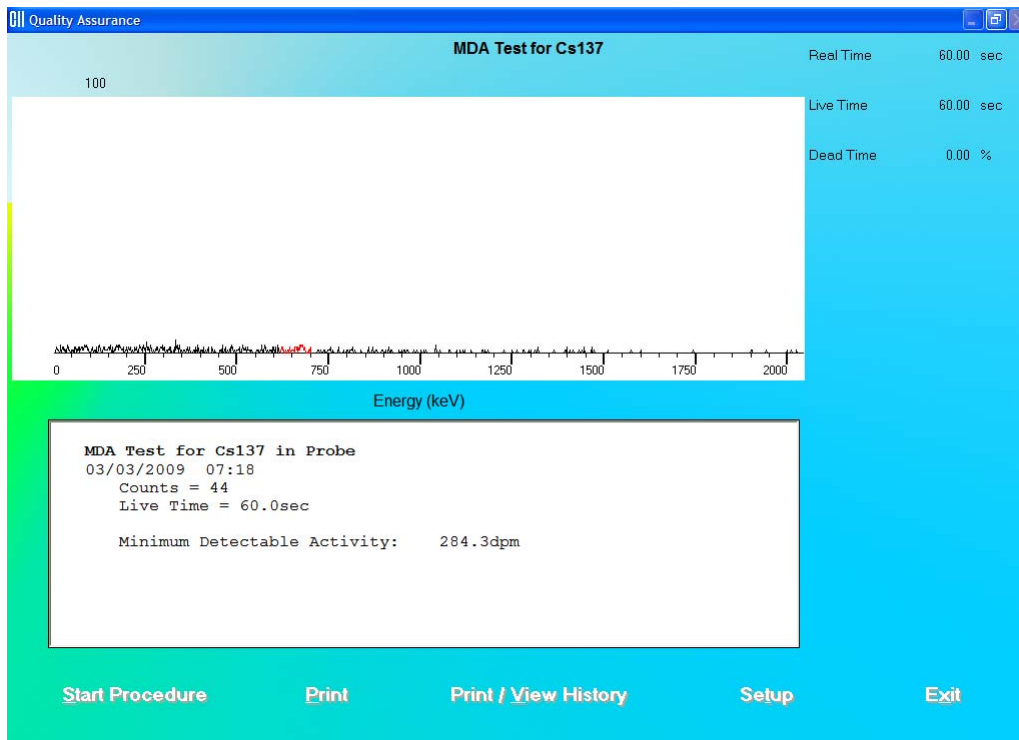

Figure 5-24
9. When the measurement is completed, the screen appears as shown in Figure 5-24 displaying the Minimum Detectable Activity (MDA) measured in the selected isotope's ROI.